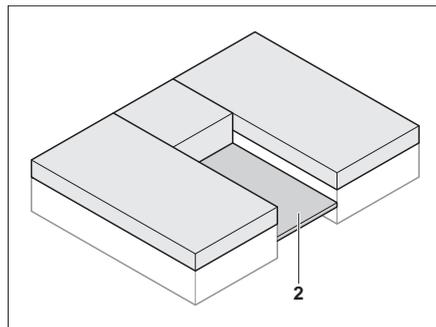

Fig. 83 Pull out slatted frame
- Pull out the slatted frame (Fig. 83,2) between the single beds.